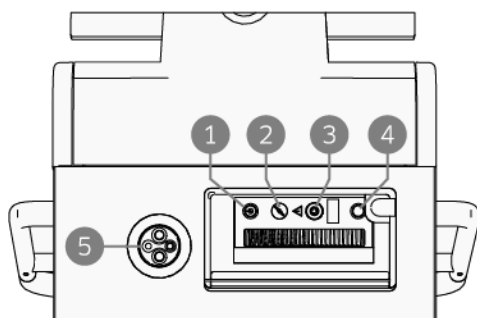

Figure 5 Modus X light source connectors
- To reset the main light source, plug the light guide into the main light source connector and press the interlock reset button (item 4 in Figure 5).